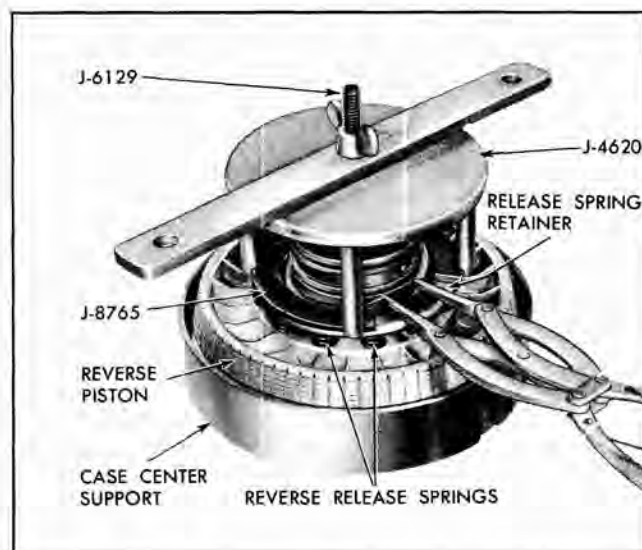

Fig. 84 Removing Reverse Release Spring Retainer Snap Ring
2. Using tools J-8765, J-6129 and J-4670-B, remove reverse release spring retainer snap ring. Center tool and position ring gap between legs (Fig. 84).
16. Lay snap ring on top of tower, then using tools J-8761, J-6129 and J-4670-B compress release springs (Fig. 84).